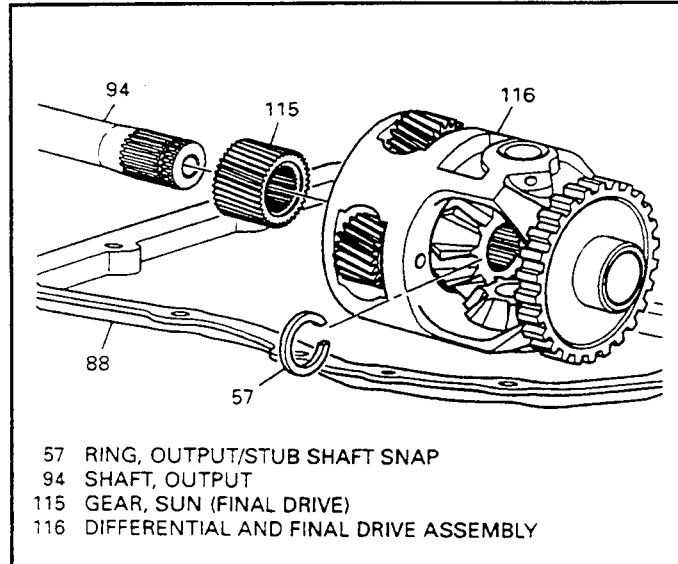

Figure 97
6. Remove and discard the snap ring (57) from the end of the output shaft (See Figure 97).
7. Remove the output shaft and final drive sun gear, as shown in Figure 97.